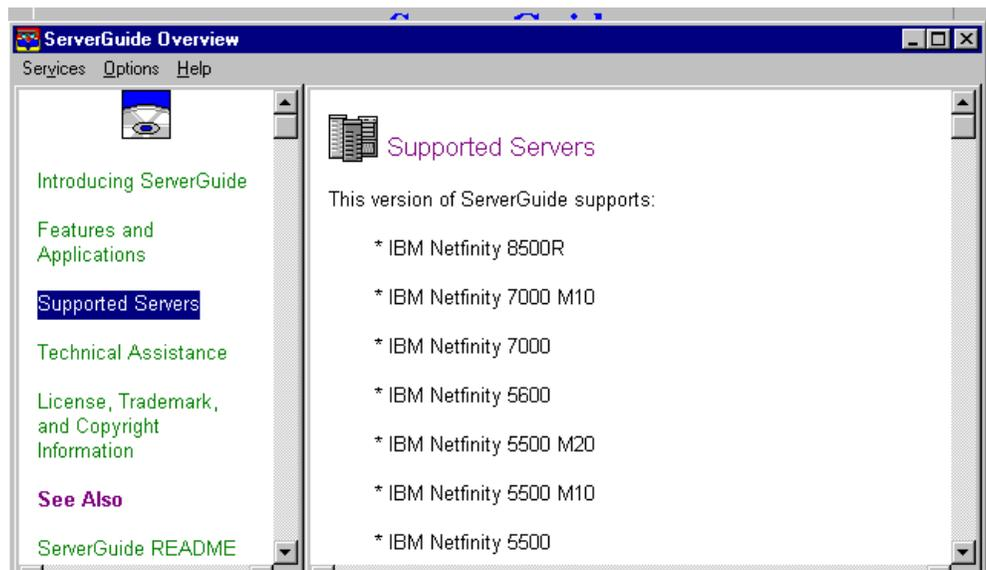

Figure 33. The Learn about ServerGuide option displaying a list of supported servers
- Optionally, select **Learn about ServerGuide** and click **Next** for additional information such as how to obtain an update package, technical assistance links to various Web pages, or a list of supported servers, as shown in Figure 33: